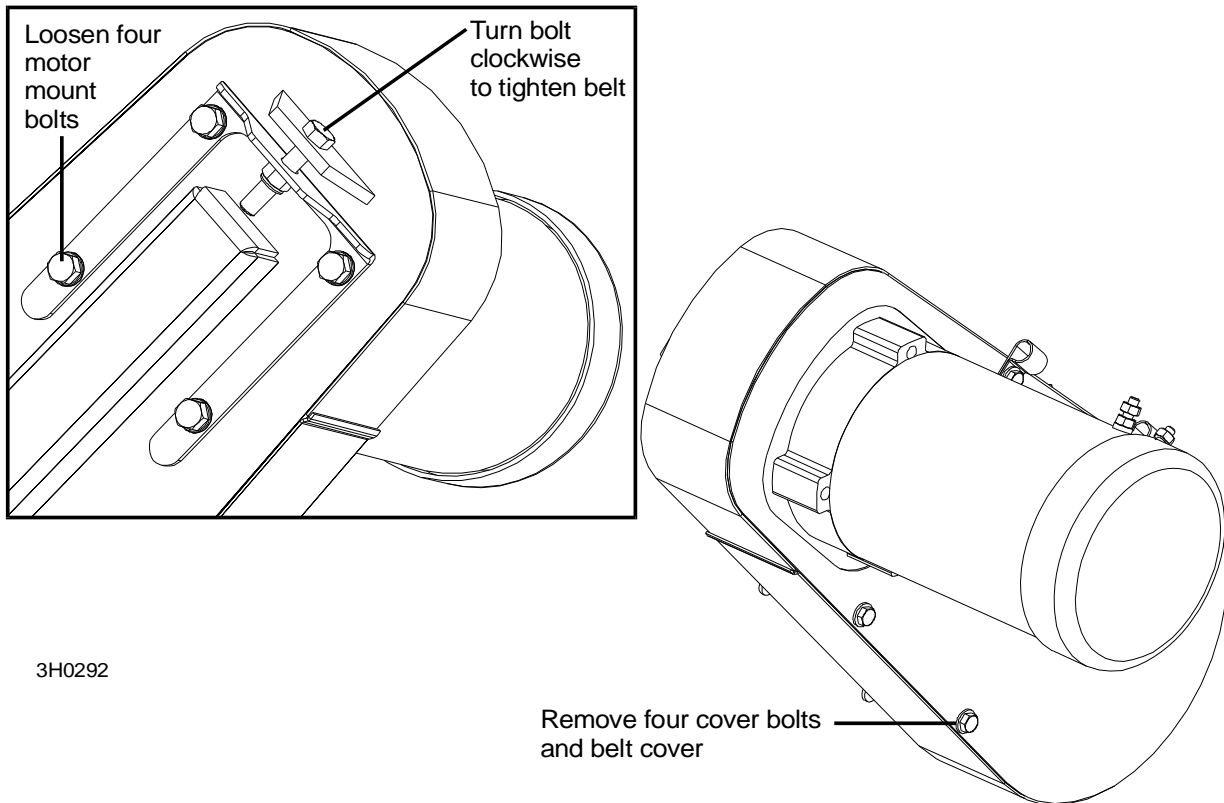

FIG. 4-15
**See Figure 4-15.** Remove the four cover bolts and belt cover and measure the belt tension. The belt should be tightened so there is 1/8" (3 mm) deflection with a 7 lb. (3.2 Kg) deflection force. To adjust the belt tension, loosen the four motor mount bolts. Place a wrench on the jam nut and turn the adjustment bolt clockwise to tighten the belt. Retighten the motor bolts and replace the feed motor cover.